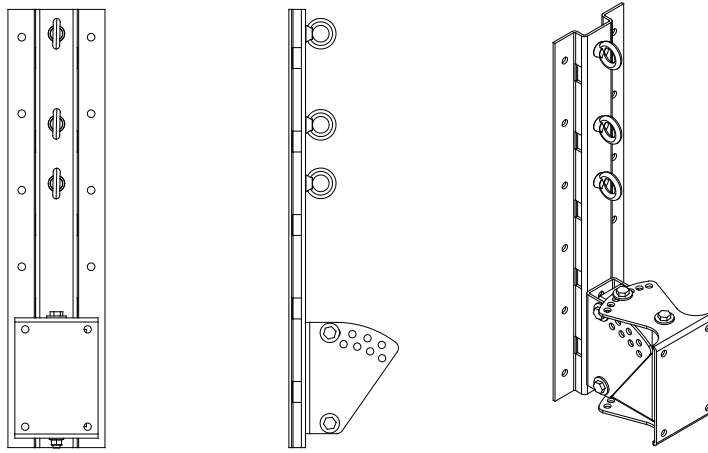
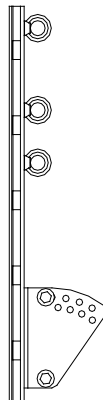

Figure 1
Figure 1a
The PT-70-2 and PT-35-2 consist of three parts: the wall bracket, the loudspeaker bracket, and the Link. The PT-70-2 wall bracket and loudspeaker bracket are shown in Figure 1. Figure 1a shows the wall bracket portion of the PT-70-2. The PT-70-2 bracket allows the loudspeaker to be oriented from a 0 degree down tilt to a maximum down tilt of 35 degrees in 5 degrees increments. The PT-35-2 allows a down tilt of 40 degrees in 8 degree increments.
- 1. Mount the wall bracket section (see figure 1a) of the bracket to the pole at the desired height on the pole. The bracket is mounted to the pole using BAND-IT stainless steel bands. DO NOT SUSTITUTE bands of other material or other widths! There are five locations on the pole bracket for bands. ALL 5 LOCATIONS MUST BE USED on the PT-70-2. There are 3 locations for the PT-35-2 and ALL 3 slots MUST BE USED. Figure 6 below illustrates the locations for the stainless steel band clamps.(PT-70 is shown)**